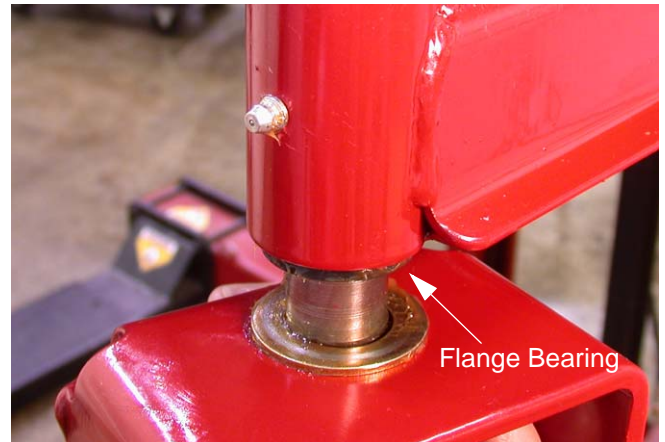

Figure 11.7
- 11.7. Inspect flange bearing on top and bottom of pivot axle. Replace if damaged. See Figure 11.7.